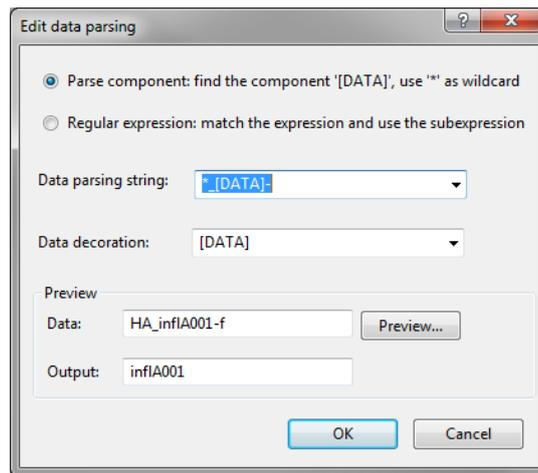

Figure 3: Parsing string.
9. Press the **<Preview>** button and press **<OK>** when the parsing is correct (see Figure 3).